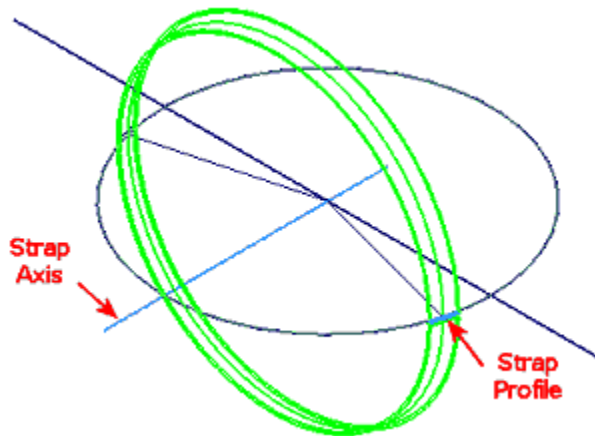

Figure 8: Strap revolved feature.
10. From the Features panel bar, click the Revolve tool. Select the closed profile of the strap as shown in Figure 8.
11. Click the Axis tool in the Revolve dialog box, and then select the line highlighted in Figure 8.